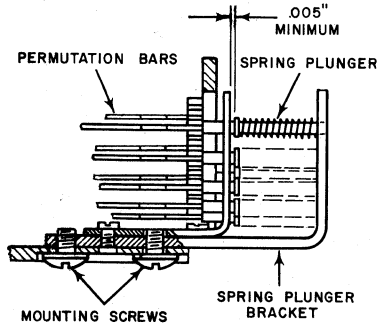

Figure 12
- Loosen the mounting screws and adjust the spring plunger bracket so there is .005" minimum clearance between the surface of the bracket and the shoulders on the plungers (Figure 12) when the permutation bars are released and against the restoring bail and the bail, in